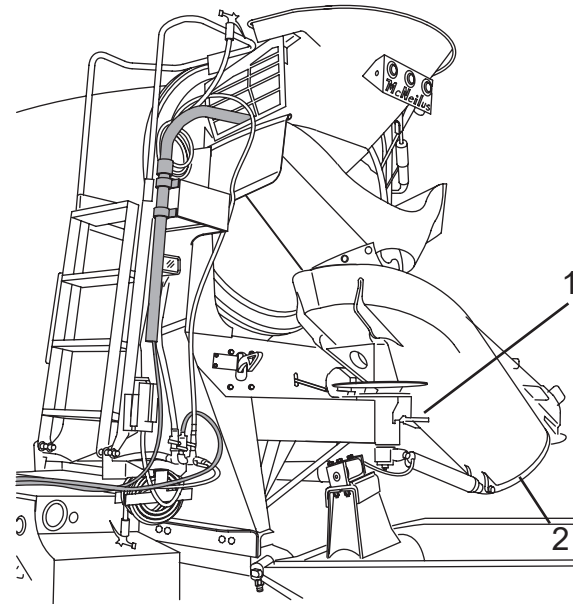

Figure 33
2. While holding the chute, pull down on the lever (Figure 33, Item 1) and move it to the right or left until the lever is seated in one of the lock positions.
3. Move the main chute (Figure 33, Item 2) to the desired position, and while holding the chute, move the lever to the center. Make sure the lever pin is fully seated into one of the holes in the chute plate before releasing the chute. Move the chute from side to side as needed to align the pin and hole.